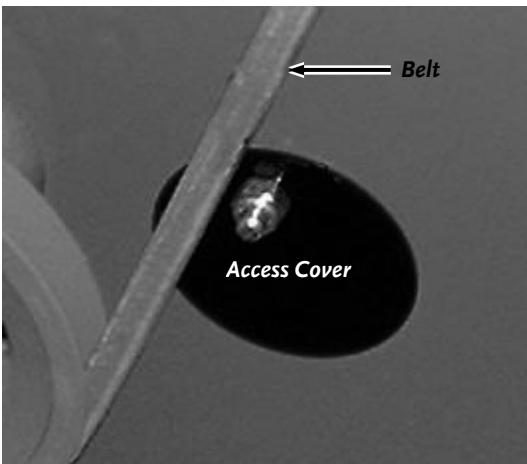

Figure 27
2. Loosen the 5/16" Nut and rotate the round Access Cover Plate to expose the Access Hole (**Figure 27**).